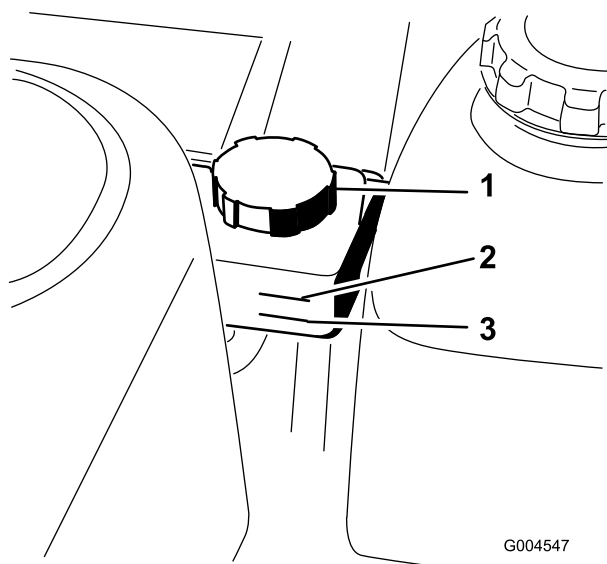

Figure 49
Note: There are two ways of checking the hydraulic oil; when the oil is warm or when the oil is cold. The tank has two levels depending if the oil is warm or cold (Figure 49).
2. Clean the area around the hydraulic tank (Figure 49).
5. If fluid is needed, remove the cap from the filler neck (Figure 49).
8. Add oil until it reaches the cold line on the hydraulic tank (Figure 49).
13. Repeat items 11 and 12 as necessary until all the air is completely purged from the system. When the transaxle operates at normal noise levels and moves smoothly forward and reverse at normal speeds, then the transaxle is purged.